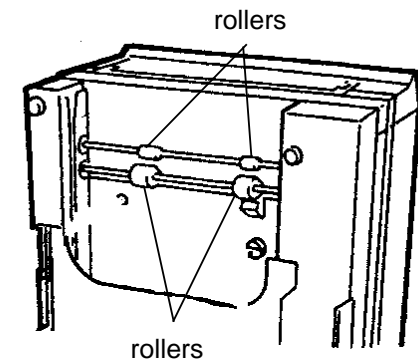

Figure 16. Auxiliary Tray Rollers
10. With an auxiliary tray, remove the paper cassette and inspect or clean the auxiliary tray rollers using a clean-up or alcohol (Figure 16).